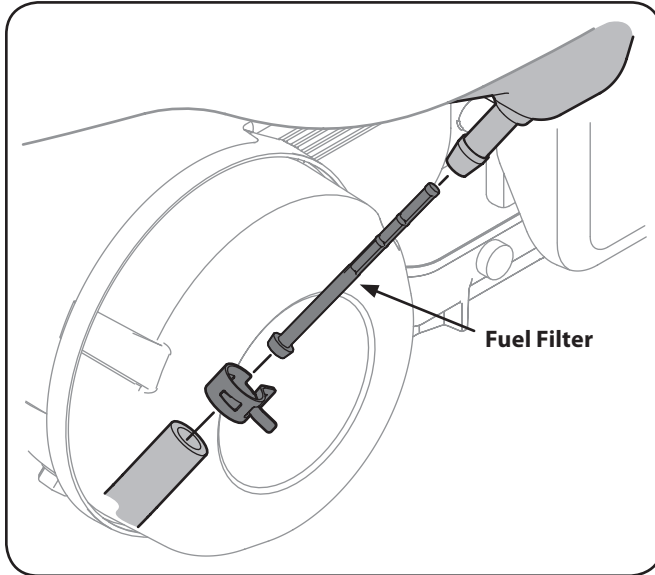

Figure 6-6
2. Remove hose clamp from fuel line and remove fuel line from tank outlet. See Figure 6-6.
4. Grasp new fuel filter from shouldered end and insert it completely to the shoulder into the tank outlet. See Figure 6-6 inset.